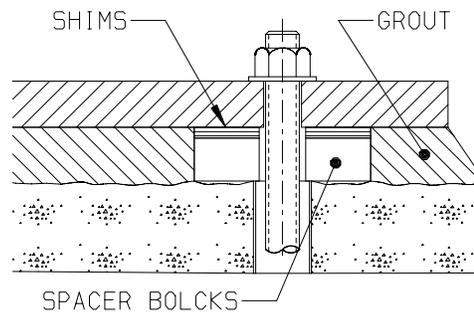

Figure 4.3
- 4.5.8 Lower the soleplate over the foundation bolts and set it down on the spacer blocks as shown in Figure 4.3.